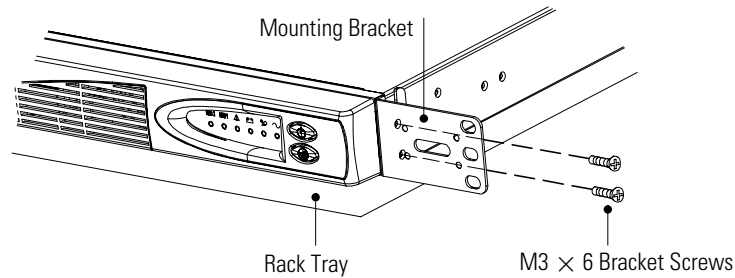

Figure 7. Rack Tray and Mounting Bracket for a 23" Cabinet
2. On each side of the UPS, attach the short end of a mounting bracket to the UPS using two of the supplied M3 × 6 screws (see Figure 7).